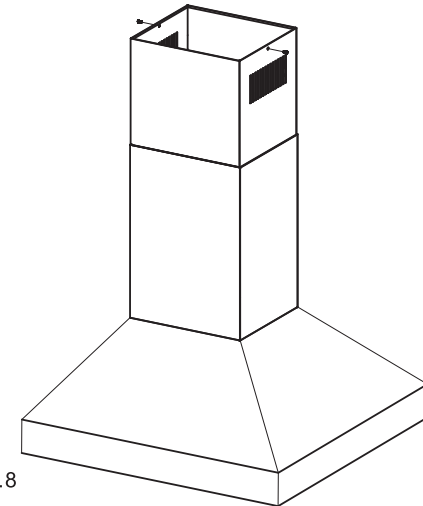

Fig.8
10. Carefully slide up the top chimney and fix to the truss using 2 screws as shown Fig.8.